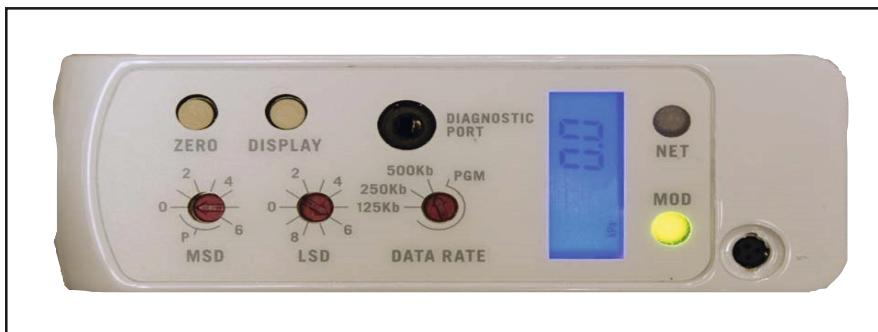

Figure 2-10 % Flow Display Set to Zero
3. Press and hold down the Zero button for a minimum of 5 seconds or until the "%FS" display reads 0.0 as shown in Figure 2-10. The %FS label will flash during this procedure.